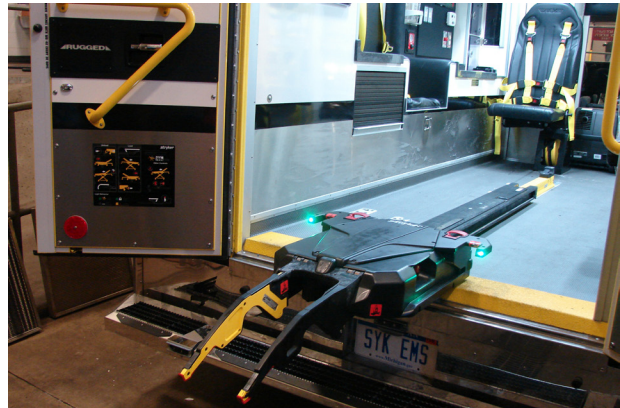

Figure 55
- Loading and/or unloading an occupied cot into a vehicle requires a minimum of two (2) trained operators.
2. Raise the lifting arms to guide and pull the trolley out of the vehicle patient compartment as shown in Figure 55.